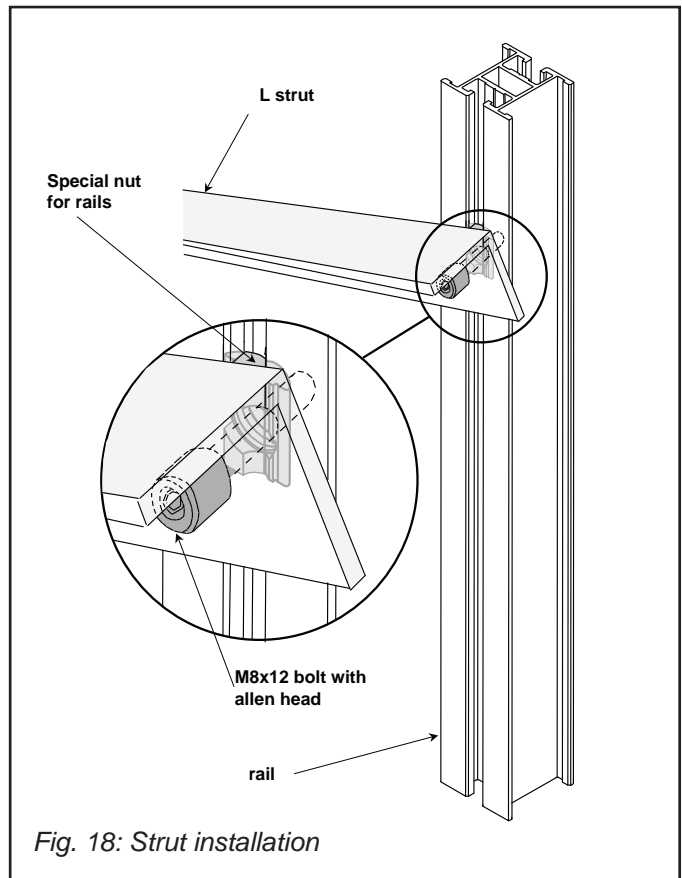

Fig. 18: Strut installation
- Fix the L-support of the triangle to the base rail using screws, serrated lock washers and nuts for rails (Fig. 18) and tighten the connections.
- Install the strut between the two triangular supports (Fig. 18). Following Fig. 18, insert special M8 nuts into the triangle support rail. Then lay the strut onto the rails and fix it with M8×12 bolts with washers (Fig. 18).